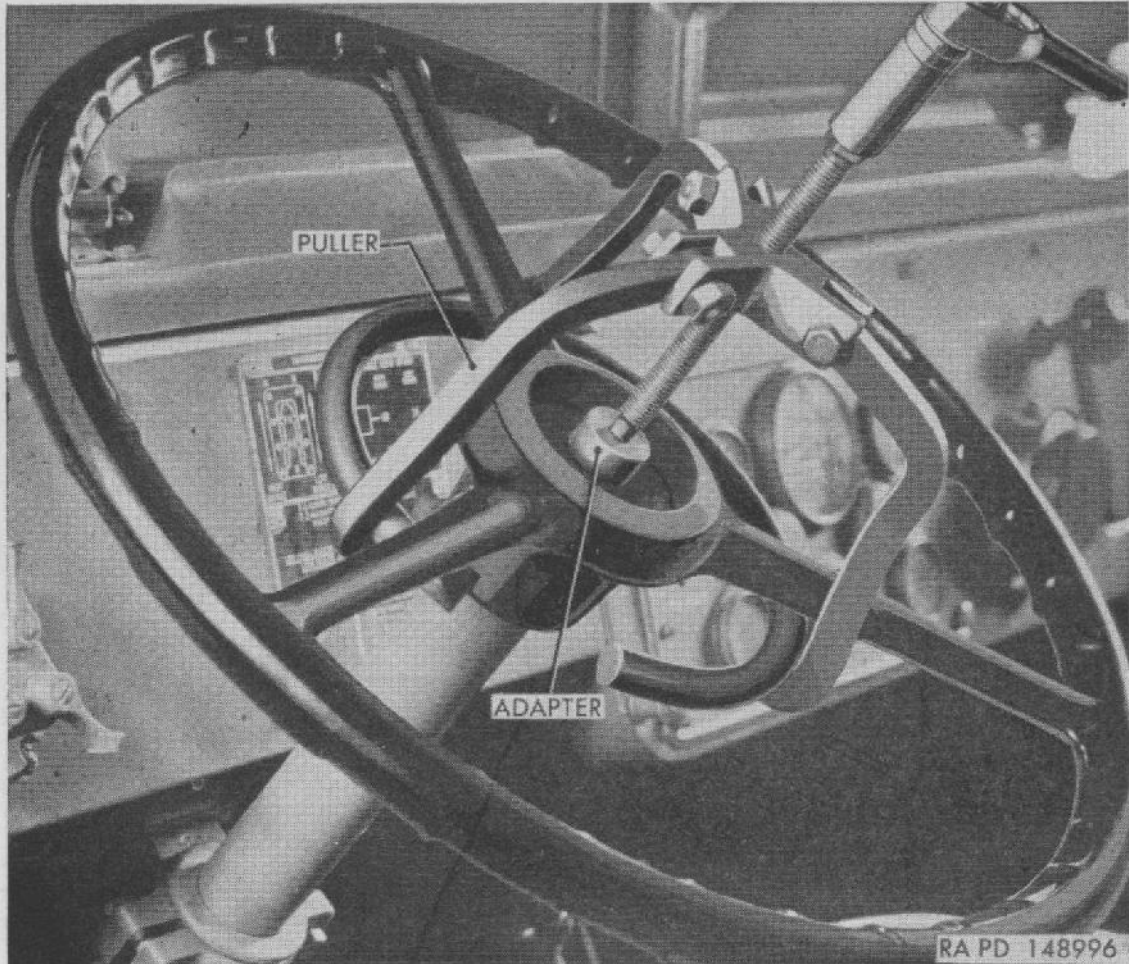

Figure 152. Removing steering wheel with puller 41-P-2954 and adapter 7950054.
- (1) Remove horn button and contact (par. 165*d*).
- (2) Remove nut which retains steering wheel to shaft.
- (3) Position steering puller wheel 41-P-2954 and puller adapter 7950054 at wheel. Pull wheel from shaft (fig. 152).